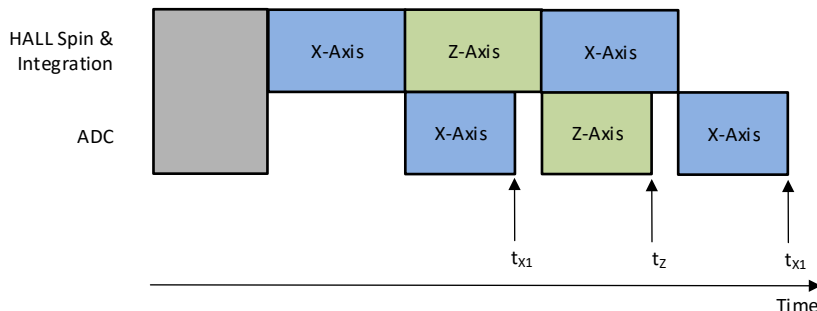

Figure 8-3. XZX Magnetic Field Conversion
In absolute angle measurement, application sensor data from multiple axes are required to calculate an accurate angle. The magnetic field data collected at different times through the same signal chain introduces error in angle calculation. The TMA5170 offers pseudo-simultaneous sampling data collection modes to eliminate this error. Figure 8-3 shows an example where MAG_CH_EN is set at 1101b to collect XZX data. Equation 14 shows that the time stamps for the X and Z sensor data are the same.
- t_{x1} , t_z , t_{x2} are time stamps for X, Z, X sensor data completion as defined in Figure 8-3.